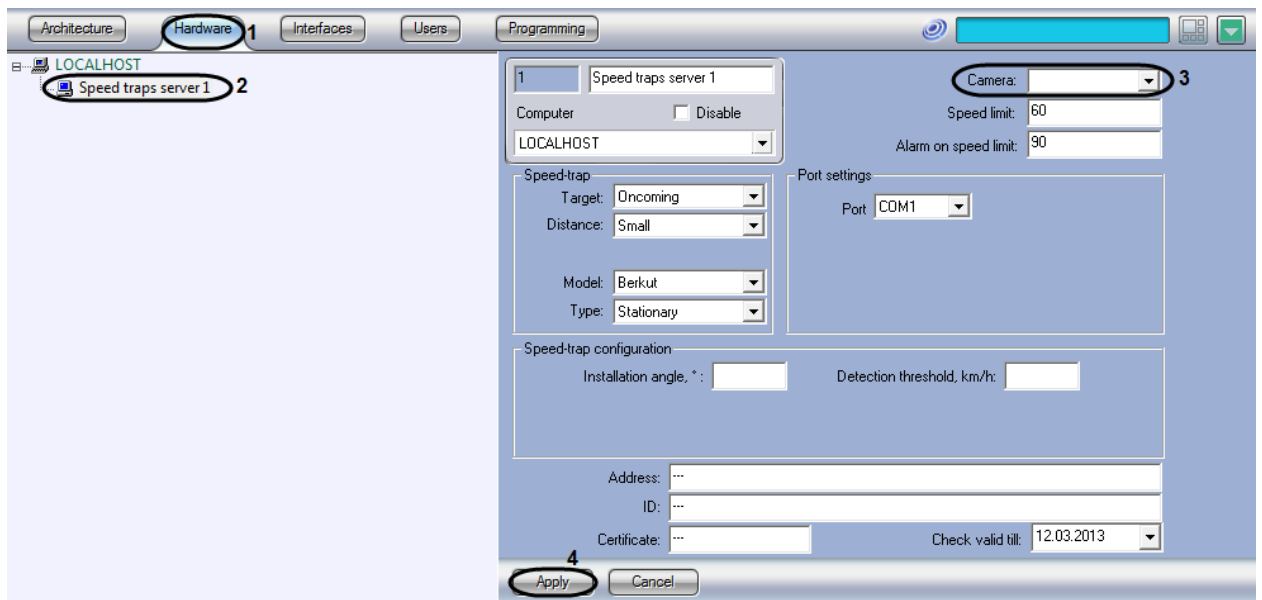

Fig. 7.3—2 The Speed-trap server object settings panel
2. In the object tree on the left side of the Hardware tab, select the Speed-trap server object representing the Radar module to be set up. The settings panel of the selected object will open on the right side of the window (see Fig. 7.3—2).